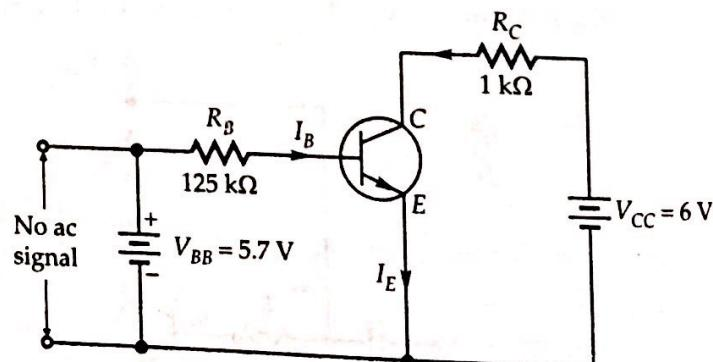

Figure 5.25
**Example 5.11** A NPN transistor is used in Fig. 5.25 from the circuit. Find dc load line and Q-point on the output characteristics of CE configuration. (Si material is used).